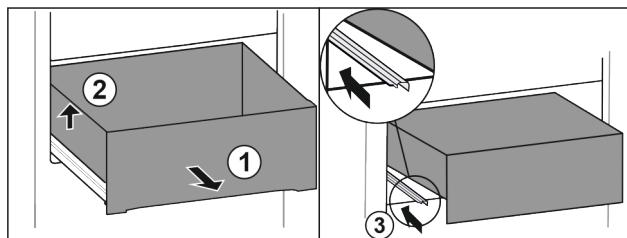

Fig. 84
- Pull out drawer as far as it will go. Fig. 84 (1)
- Lift drawer on the left. Fig. 84 (2)
- Slide in left rail. Fig. 84 (3)